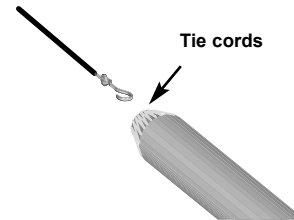

Figure 12: Screen top with cable from crane
2. For larger screens, attach the hoist or crane cable to the throughbolt in the top of the screen tube. Refer to Figure 12. For smaller screens, the tube can be supported by a rolling dolly instead of a crane.